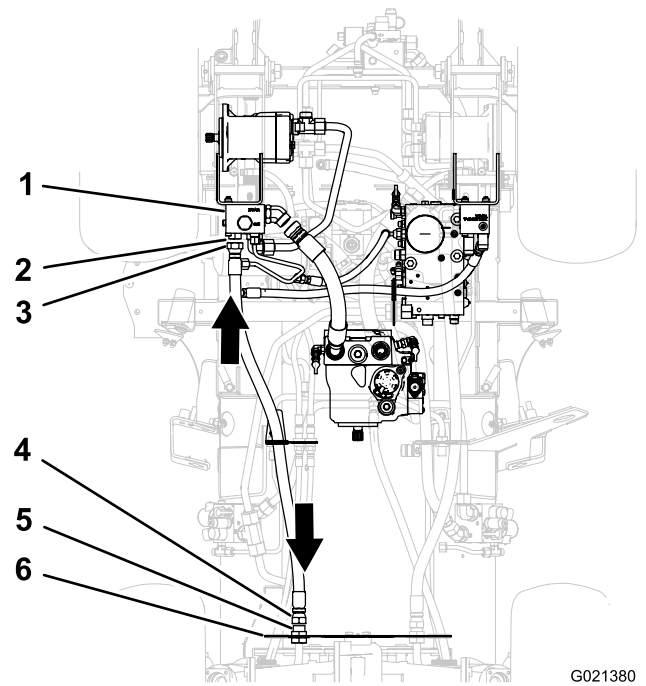

Figure 16
2. Align the rear fitting of the rear-traction hose with the bulkhead fitting (Figure 16).
3. Align the forward fitting of the rear-traction hose with the straight-hydraulic fitting located in port M3 of the flow-divider manifold (Figure 16).